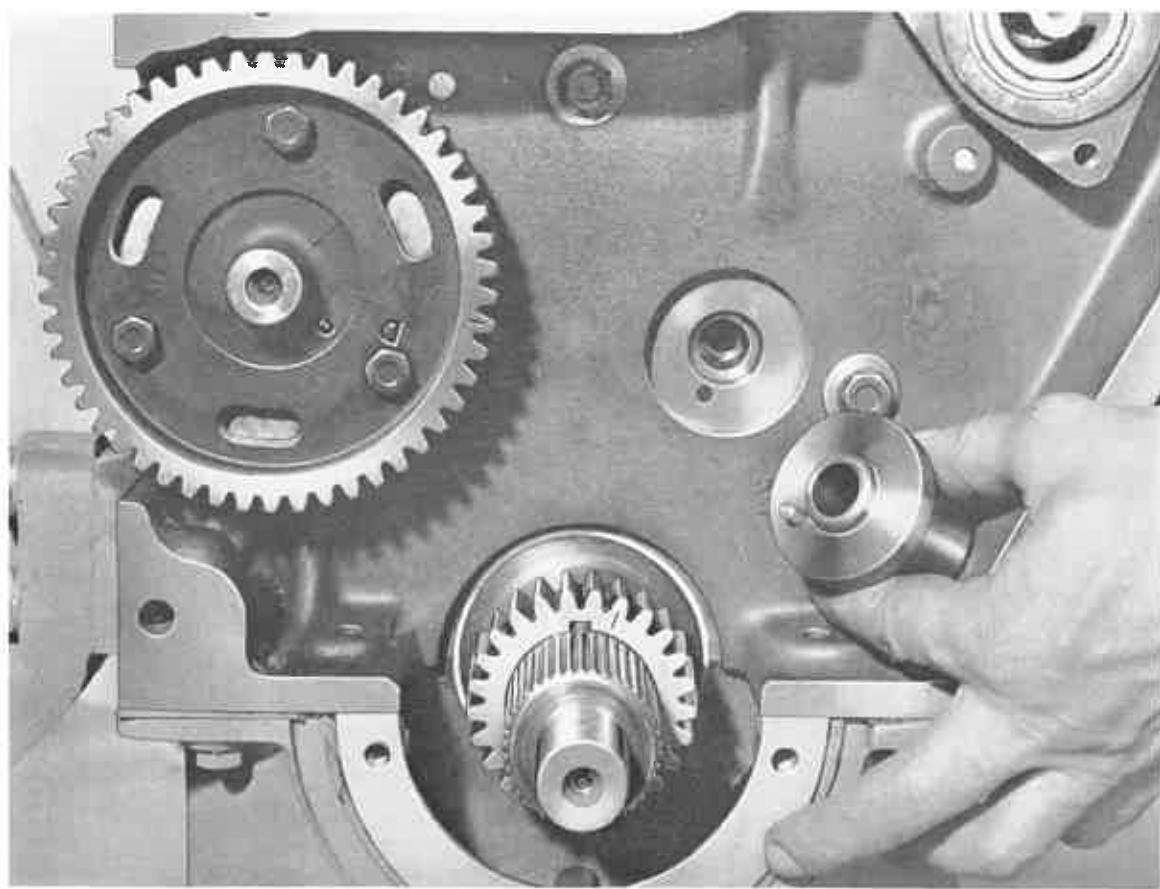

Fig. N.4. Removing Idler Gear Spigot.
4. The idler gear spigot may now be removed from its machined location in the timing case (See Fig. N.4).